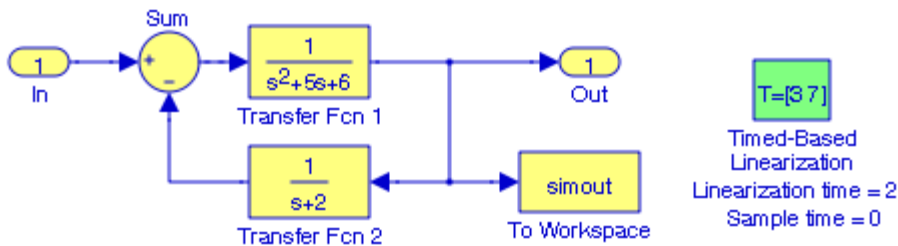

Figure 10.5. Model in Figure 10.4 with linearization times at $T=3$ sec and $T=7$ sec
2. We open the block's parameter dialog box and set the Linearization time to [3 7]. The model appears as shown in Figure 10.5.